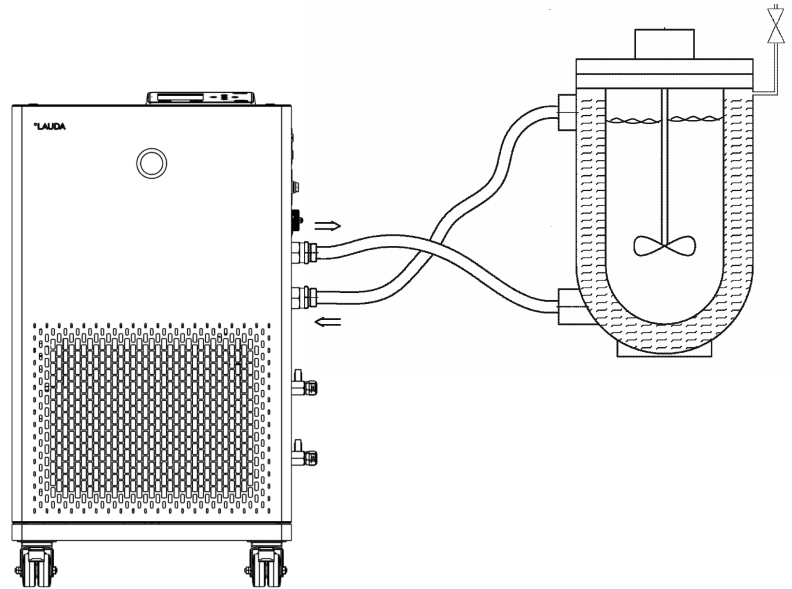

Fig. 15: Connection diagram with vent valve
- Depending on the type of application, a vent valve can significantly simplify the aeration process. The vent valve must be located at the highest point of the circuit (Fig. 15).
The external application must be connected according to the sketch (Fig. 15) so that gas/vapor bubbles can be removed from the system and undisturbed operation is possible. The outflow of the pump must be connected to the lower connection of the application. The return line to the pump connector must be connected to the top connection of the application. The application is thus flowed through from bottom to top.